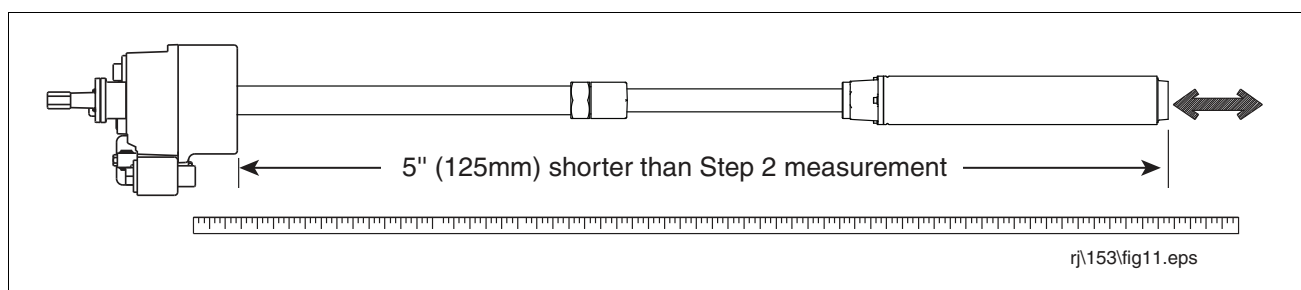

Figure 11. Adjusting pump length
5. Referencing Figure 11, pull the UMP end until the distance between the bottom of the manifold and the bottom of the UMP is 5 inches (125 mm) (15 inches [381 mm] for floating suction) shorter than the distance measured in Step 2.